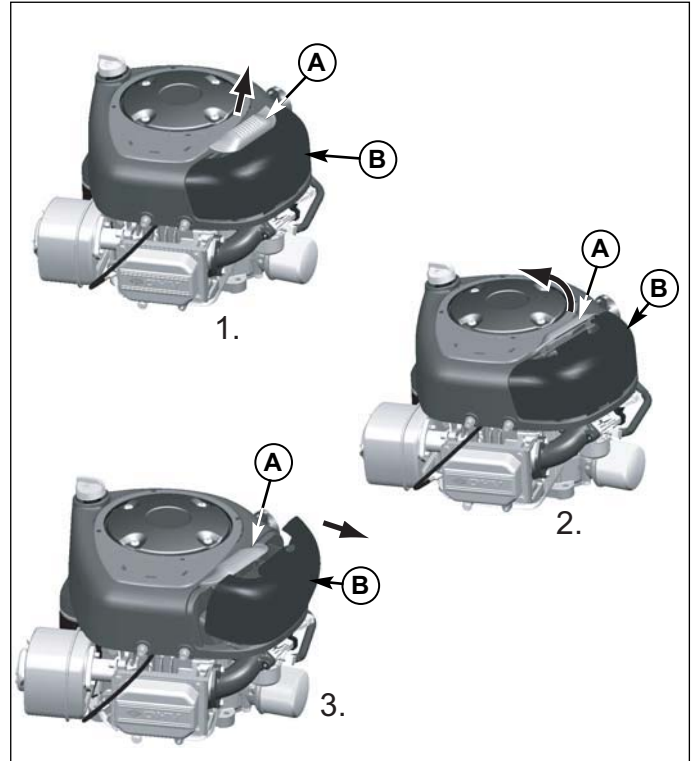
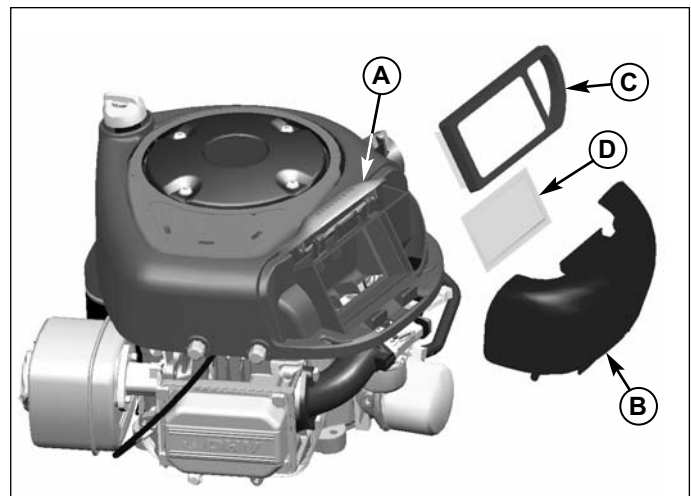

Figure 32. Air Filter Assembly - Single Cylinder Models
Figure 33. Air Filter Service - Single Cylinder Models
1. Lift up on the latch (A, Figure 32).
3. Pull cover (B) out and off.
4. Lift air filter (C, Figure 33) and pre-cleaner (D) if equipped, from blower housing.
5. Install the pre-cleaner (D) with the mesh side up. Install the air filter (C) as shown.
6. Install the cover (B) making sure the tabs are inserted into their slots. Secure with the latch (A).